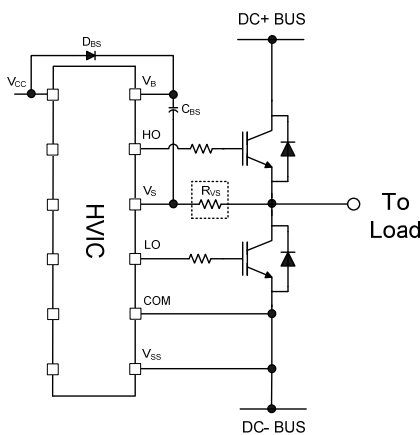
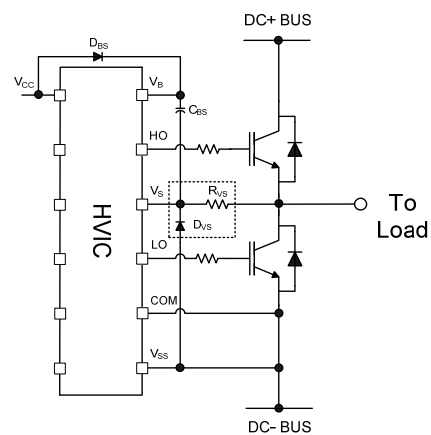

Figure 21:  $V_S$  resistor
Figure 22:  $V_S$  clamping diode
**Routing and Placement:** Power stage PCB parasitic elements can contribute to large negative voltage transients at the switch node; it is recommended to limit the phase voltage negative transients. In order to avoid such conditions, it is recommended to 1) minimize the high-side emitter to low-side collector distance, and 2) minimize the low-side emitter to negative bus rail stray inductance. However, where negative  $V_S$  spikes remain excessive, further steps may be taken to reduce the spike. This includes placing a resistor (5  $\Omega$  or less) between the  $V_S$  pin and the switch node (see Figure 21), and in some cases using a clamping diode between COM and  $V_S$  (see Figure 22). See DT04-4 at [www.irf.com](http://www.irf.com) for more detailed information.